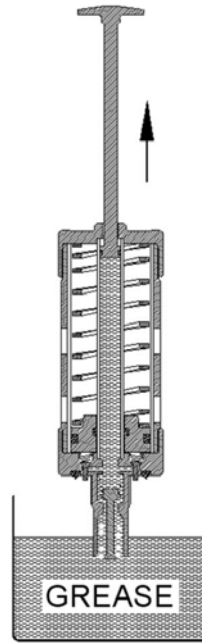

Fig. 6-3 Step 5,6&7
5. Insert cartridge (discharge port end) into grease container (Fig. 6-3)
7. Pull handle out and wait 2 seconds for grease to get inside. (Figure 6-3).